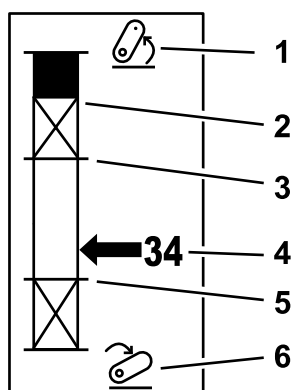

Figure 22
2. Start the Outcross machine and cycle through the screens on the status display to show the 3-point hitch height (Figure 22).
3. Move the 3-point hitch up and down and record the number for the current hitch position when in the transport position, the turn around position, the maximum work position, and the minimum work position (Figure 22).
This is the maximum lift height of a 3-point attachment. Set this position by lifting the attachment to the maximum height allowed or the highest angle for a non-engaged PTO shaft; whichever occurs first. Note the height position on the status display screen and enter it into the parameter setting in the InfoCenter screen (Figure 22).
This parameter is only required for 3-point attachments engaged by the paddle. This is the automatic position of the 3-point when the attachment is in turn around or being lifted to avoid a hazard. Set this point by lifting the 3-point attachment and confirm that the lifted attachment does not damage the natural swales of the turf. Note the height position on the Status Display screen and enter it into the parameter setting in the InfoCenter screen (Figure 22).
Raise the attachment to the highest allowed point and note the height position on the Status Display screen and enter it into the parameter setting in the InfoCenter screen (Figure 22).
Lower the attachment to the lowest, allowed point and note the height position on the Status Display screen and enter it into the parameter setting in the InfoCenter screen (Figure 22).